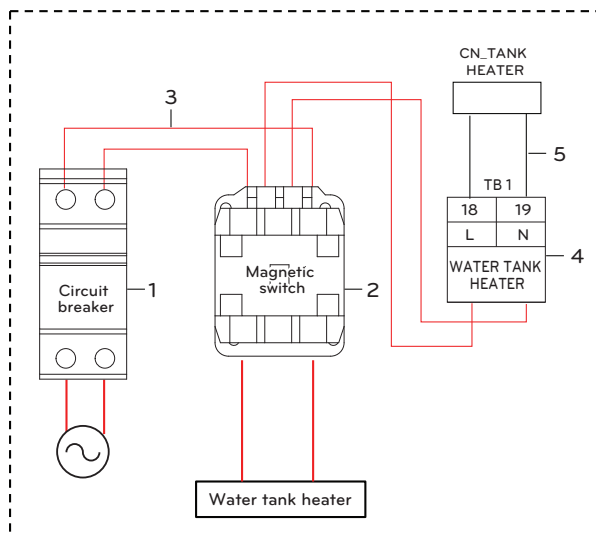

Fig. 2
Step 3. Connect the Magnetic switch with TB1. (Fig. 2)
Step 4. Connect the Circuit breaker with Magnetic switch. (Fig. 2)